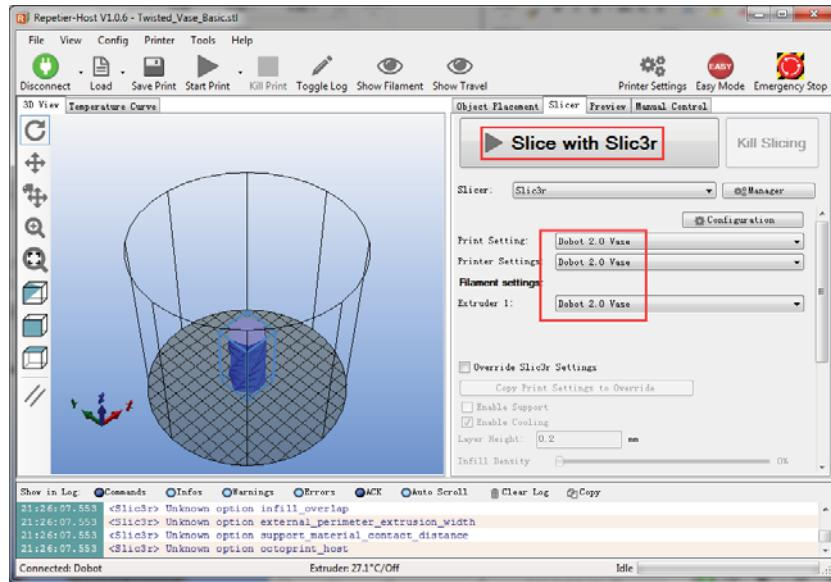

Figure 5.142 Start to slice
- Click **Slic3r** with **Slic3r** on the **Slicer** tab of the **Repetier Host** page, as shown in Figure 5.142.